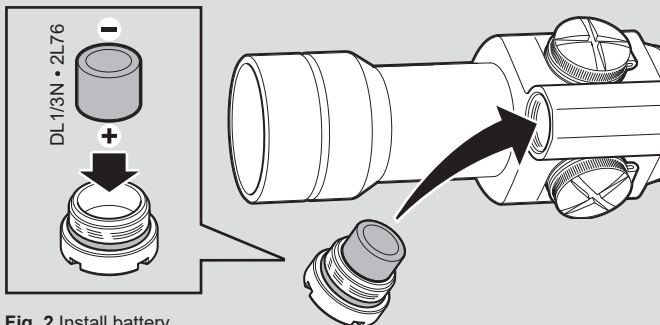

Fig. 2 Install battery
- Remove battery cap (1) by turning it counterclockwise using the Aimpoint tool (20B).
- Insert battery (2) with positive end (+) toward battery cap. See Fig 2.